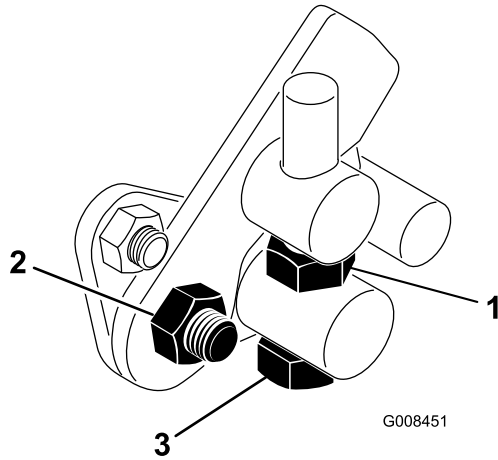

Figure 44
1. Loosen the jam nut on the trunnion bolt (Figure 44).
4. Tighten the jam nut on the trunnion bolt and the nut on the pedal pivot to lock the adjustment (Figure 44). Check the adjustment and adjust as required.